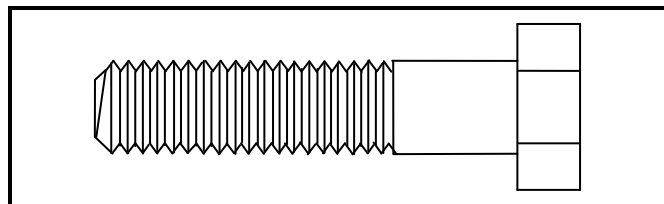

FIGURE 1.6
- 1.6 FIGURE 1.6 below shows a joining fixture that can be used on building sites.